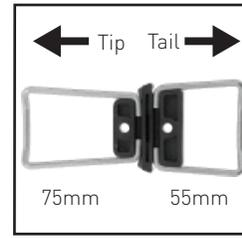

Figure 1
- With the bend in the climbing wires facing up, place the 75mm Climbing Wire into the narrower forward slot of the Heel pad. Place the 55 mm Climbing Wire into the rear slot of the Heel pad. (see figure 1)